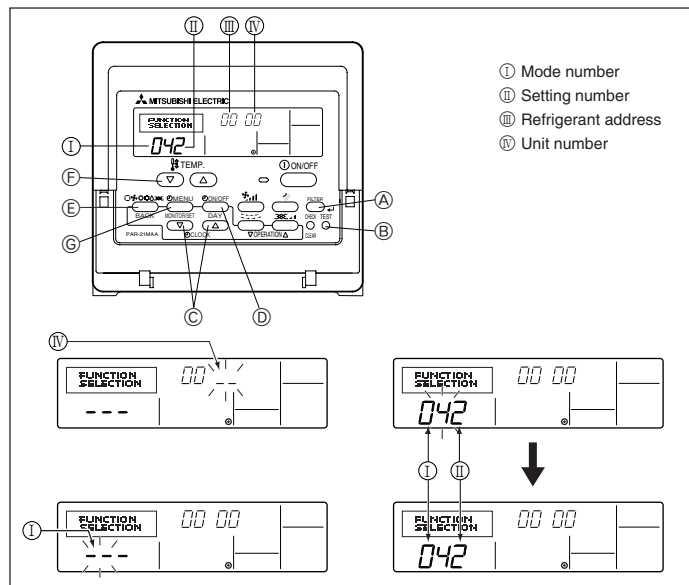

Fig. 6-7
6.5. Function settings (Wired remote controller) (Fig. 6-7)